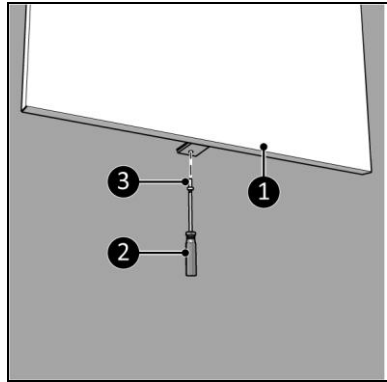

Figure 9
10. Screw and tighten the device (Figure 9, pos. 1) with a small screw (Figure 9, pos. 3) to the wall bracket using a Phillips screwdriver (Figure 9, pos. 2).